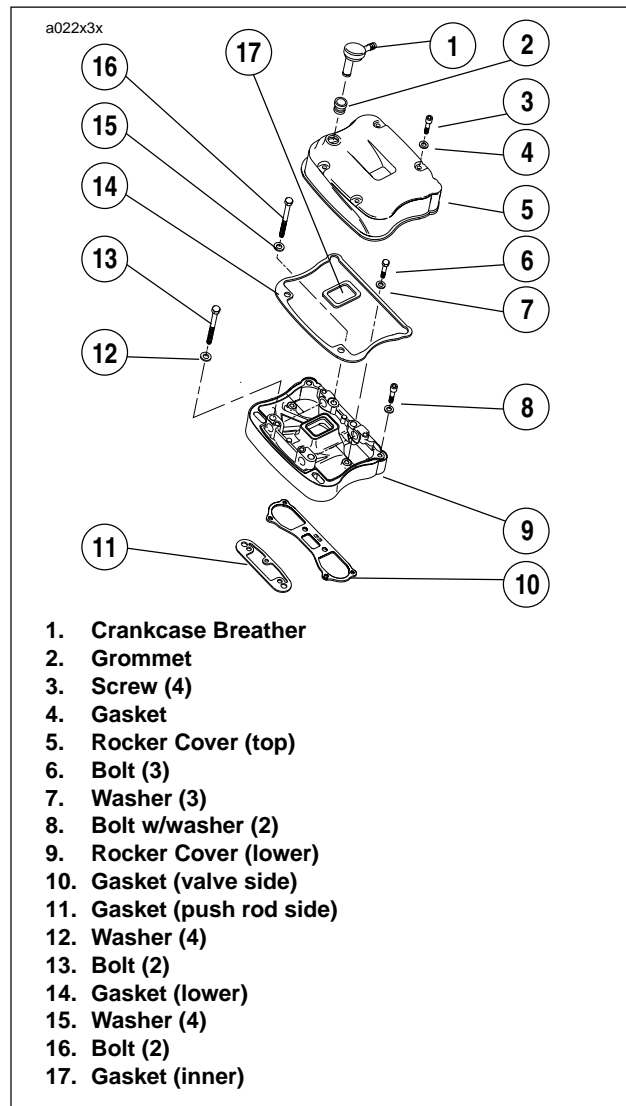

Figure 3-65. Rocker Arm Cover Gaskets
14. See **Figure 3-65**. Install **new** gaskets with the bead facing up. Place lower rocker box assembly (with rocker arms and shafts into position). Place push rods in rocker arm sockets.
16. See **Figure 3-65**. Install upper rocker covers.